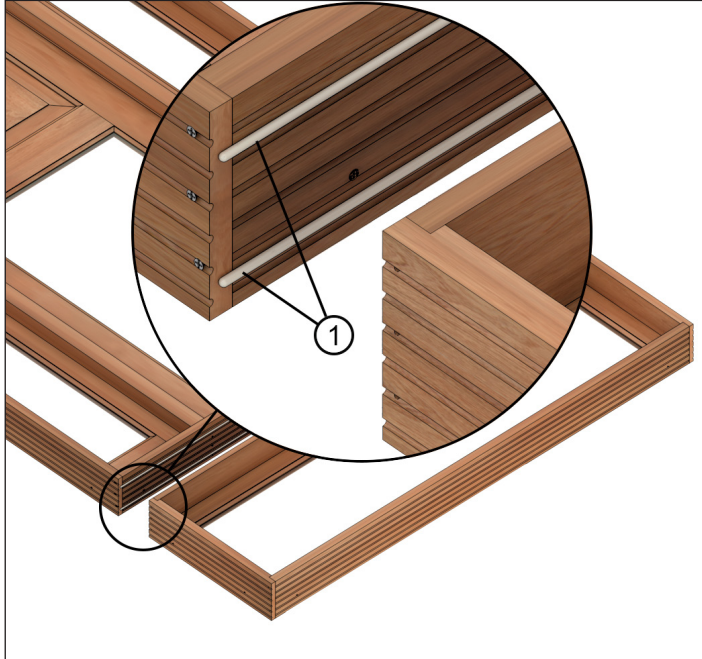

Figure 1
2. Apply two beads of sealant (approximately 3/16" thickness) between transom frame and door head jamb. Align transom with door frame. See figure 1.